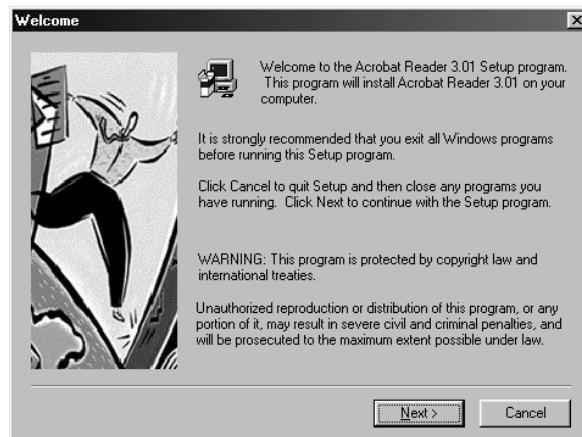

Figure 23: Installing Adobe Acrobat Reader
1. Click on 'Yes' to continue. Figure 23 will pop up